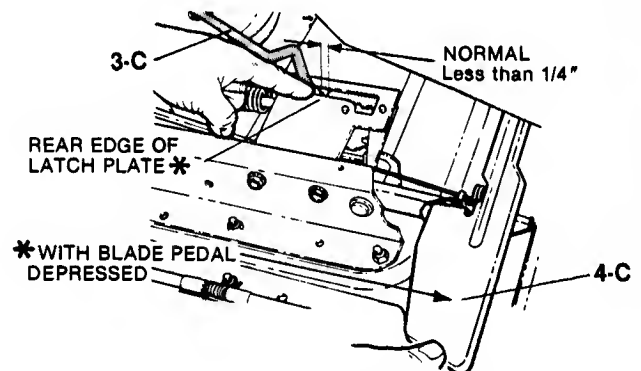

FIG. 10 - BLADE LEVER TRAVEL
As the brake band wears, The **BLADE** lever will gradually stop further rearward in the slot of the **BELT COVER**. Blade brake adjustment is required when the lever stops more than 1/4" behind the latch plate. Refer to FIG. 10. The adjusting point s shown in FIG.11. **With the engine STOPPED**, the adjustment is made as follows:
**STEP 3:** Release the **BLADE** pedals to allow the **BLADE** lever to move to the **OFF** position, then depress the **BLADE** pedals again. Check the clearance between the forward edge of the **BLADE** lever and the rear edge of the latch plate - there should be less than 1/4" (see FIG. 10) clearance. Repeat the procedure in **STEP 2** if needed, to obtain correct clearance. Reinstall the **BELT COVER**.